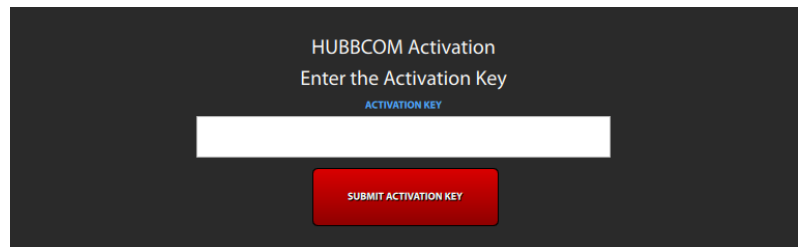

Figure 5. HUBBCOM Device Activation Screen
2. Apply power to the HUBBCOM device. The HUBBCOM device takes 40–50 seconds to boot to the device activation screen (see Figure 5). The screen may flicker several times during boot-up.